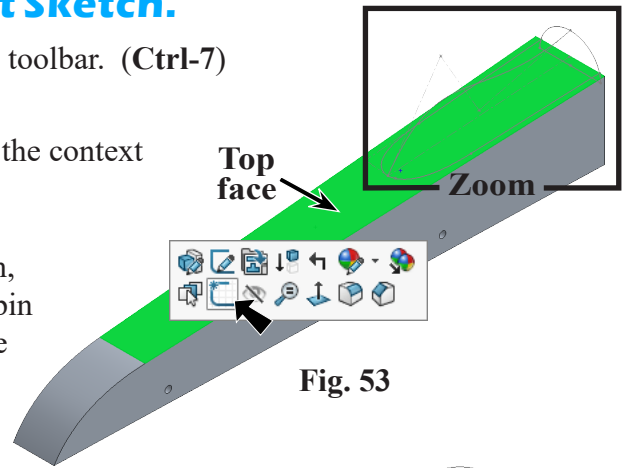

Fig. 53
Step 2. Click the **top face** and click **Sketch**  on the context toolbar, **Fig. 53**.
Step 3. Zoom in on **Loft sketches**, **Fig. 53**. To zoom, place the cursor over the sketches area and spin the wheel on mouse back. While spinning the wheel keep cursor on the area.